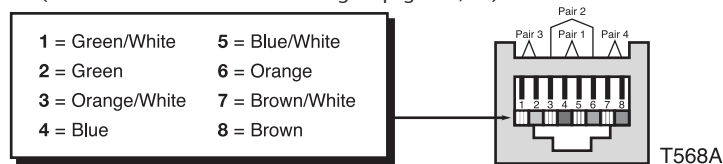

Figure 15
- Using a CAT-5 cable, connect **SYSTEM** as a home run to the appropriate zone jack on the Niles Multi-Zone System. For wiring consistency, follow the color codes shown in Figure 15. (Please refer to **IMPORTANT** warning on pages 24, 26).